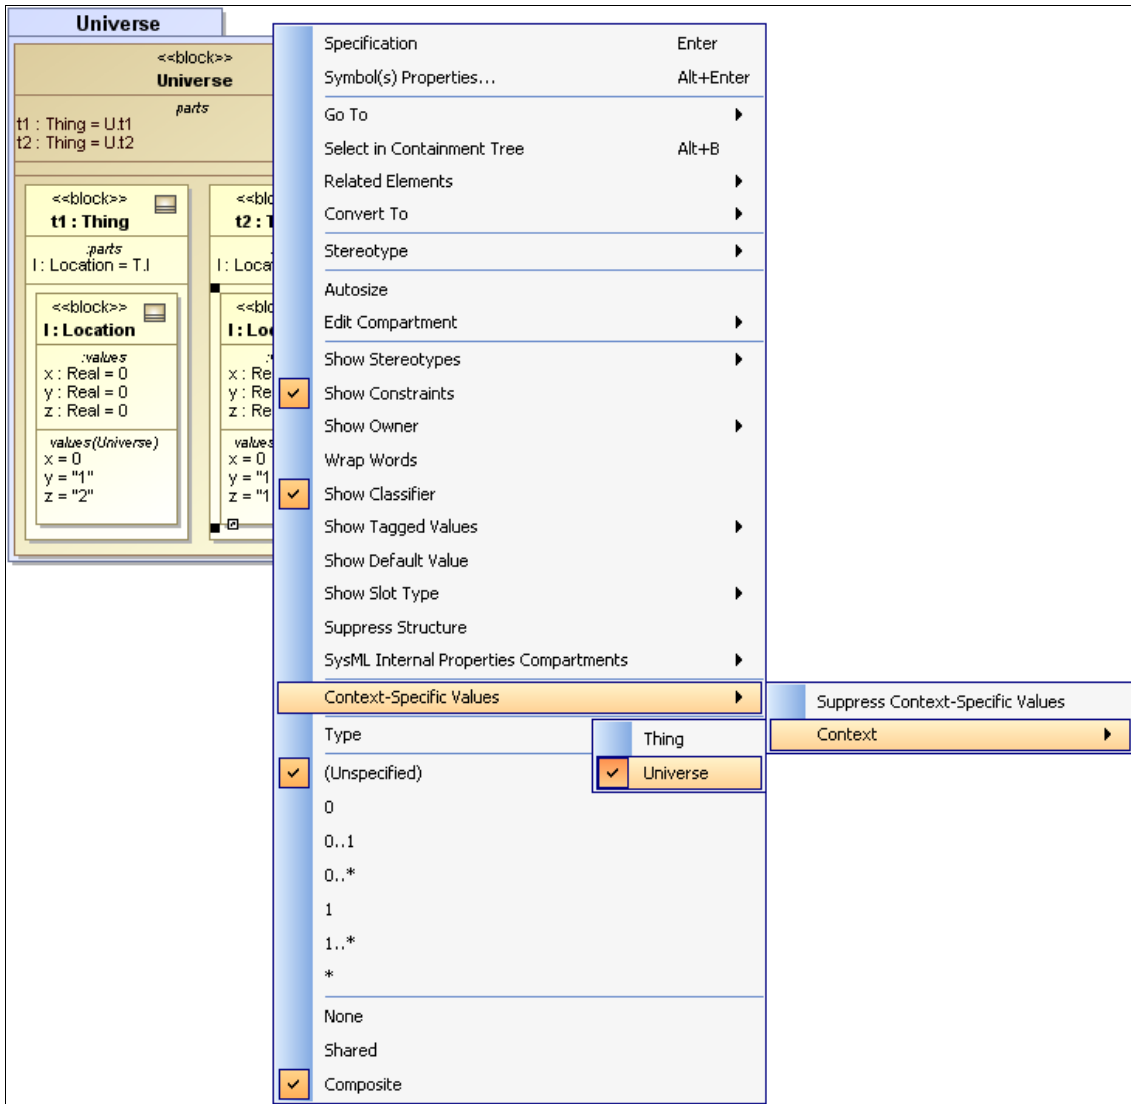

Figure 230 -- Shortcut Menu - Select Context
- Right-click the part and select **Context Specific Values > Context** (Figure 230).